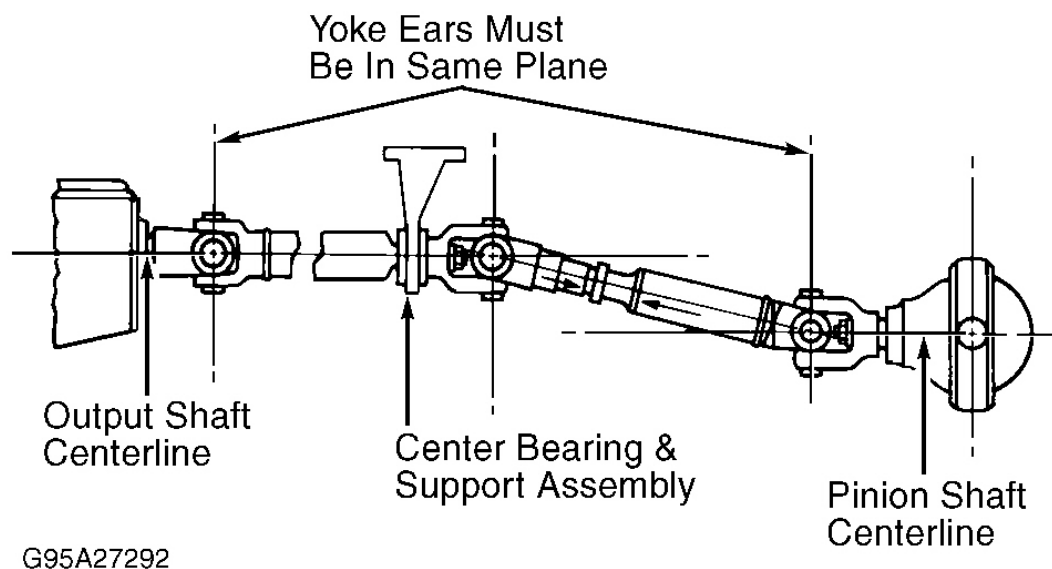

Fig. 4: Phase Alignment Of 2-Piece Drive Shaft (3-Piece Shaft Is Similar)
1. Rotate transmission until yoke ears are on a horizontal plane. If drive shaft is correctly installed, center line of yoke ears at each end of individual shafts will be parallel. If flanges are not in same plane, remove drive shaft. Install drive shaft with yokes aligned to a horizontal plane. See **Fig. 4**.
4. Set differential pinion yoke trunnion in vertical plane. Connect rear drive shaft to pinion yoke. If 2-piece shaft is correctly installed, centerline of trunnions at each end of individual shafts will be parallel. See **Fig. 4**.